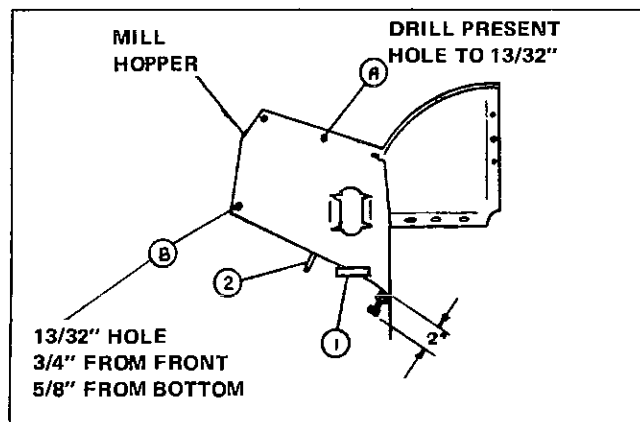

Figure 2 — Mill Throat
3. Torch square stop, Item 1, Figure 2, at mill throat outline so that it does not protrude. Torch this item at both front and rear of mill throat (2 sides).
4. Torch off strap, Item 2, Figure 2, from underside of mill throat. This strap interferes with
5. Enlarge hole at Point A, Figure 2, to 13/32" diameter on both front and rear of mill throat.
6. Drill a 13/32" diameter hole at Point B, Figure 2, on both front and rear of mill throat (2 sides).
7. Adjust (3) hay retard bolts to a maximum of 2" distance from mill throat to end of bolt hex head. See Figure 2.